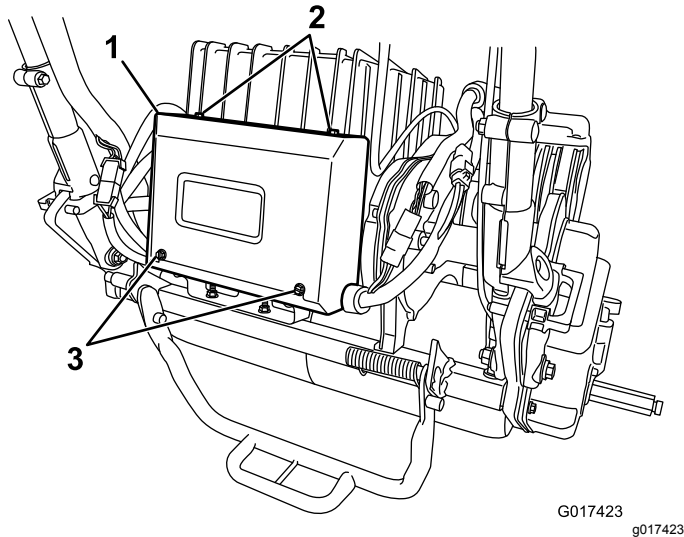

Figure 41
2. Remove the 2 rear screws from the electrical box, loosen the 2 upper screws, and remove the box cover (Figure 41).